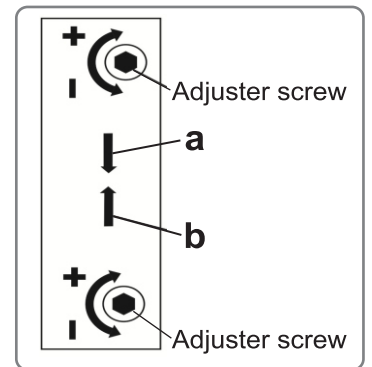

Fig.1
- b). Match rotational direction with corresponding directional arrows on motor head (fig 1. a or b).